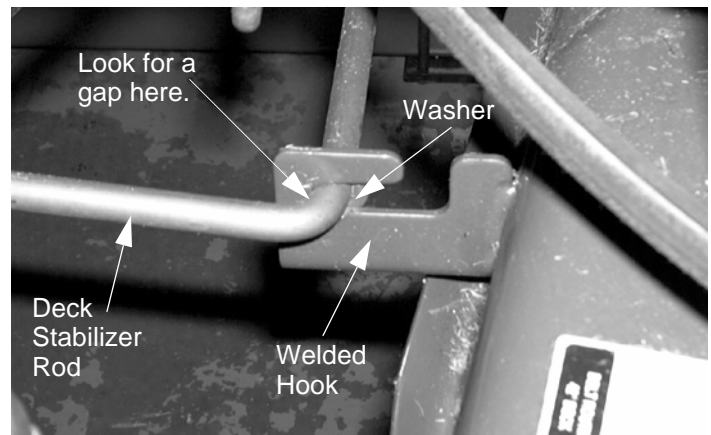
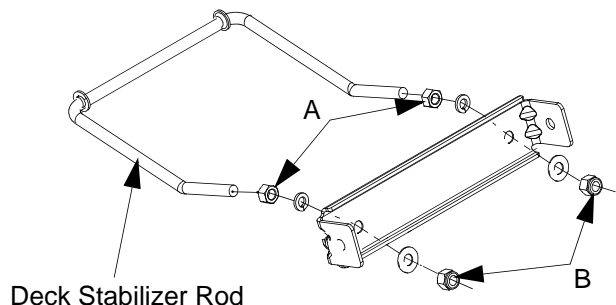

Figure 1
Figure 2
9. Ensure that the **washers** welded to the **deck stabilizer rod** are both positioned to the inside of the **welded hooks** on the deck. See Figure 1.
3. Check for equal tension of both sides of the **deck stabilizer rod** by pulling forward on one side of the deck at a time and looking for a gap between the rod and the **welded hook** on that side of the deck. See Figure 1.
4. If a gap is present on one side, that side needs to be adjusted. If there is no gap on either side, skip the adjustment and proceed to *Installation of dash tube isolators*. See Figure 1.
1. On the side in need of adjustment, loosen the nut "A" on the **deck stabilizer rod** until it reaches the end of the threads. See Figure 2.
2. Tighten the nut "B" until there is no gap between the rod and the **welded hook** (Figure 1) when you pull forward on that side of the deck. See Figure 2.
3. Tighten the nut "A" on the **deck stabilizer rod** to lock the adjustment. See Figure 2.